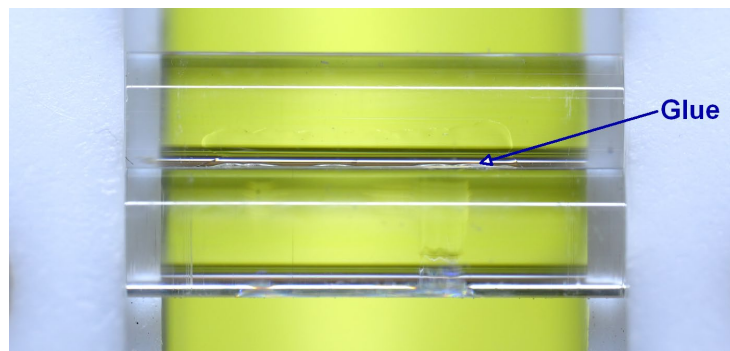

Figure 1.2: Pair of light pipes in vice with glue.
- Apply a small amount of epoxy (M-31CL) or glue (G-S Hypo) between the two pipes of a pair. (see Figure 1.2)